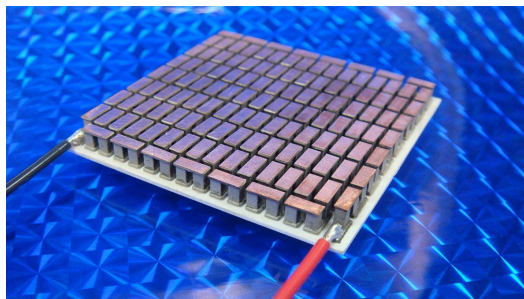

Figure 1 – A 254 Element TE Module
Thermoelectric (TE) phenomena arise from the intercoupled electrical and thermal currents in a material. A thermoelectric generator is constructed by connecting multiple n-type and p-type thermoelements in electrical series with all elements in thermal parallel between a heat source and a heat sink. A scaffolding is often used on the top and the bottom of a device to lend mechanical support to the thermoelements. Figure 1 depicts a commercially available device with the top scaffolding removed.